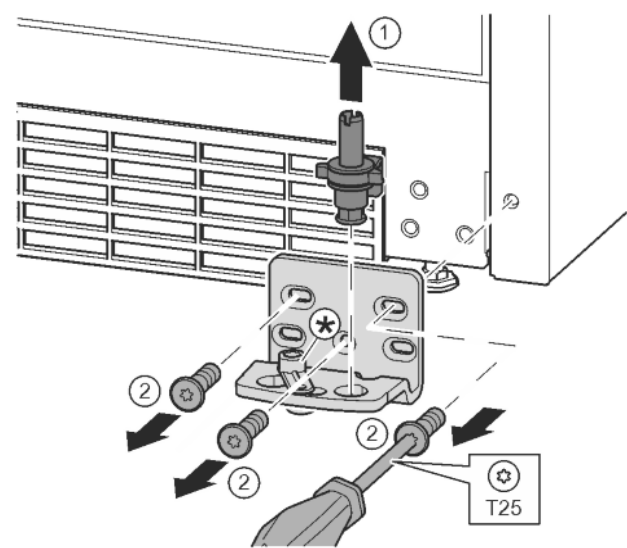

Fig. 15
- Lift the bearing pin completely upward and remove. Fig. 15 (1)
- Undo the screws with a T25 screwdriver and remove the bearing bracket Fig. 15 (2)